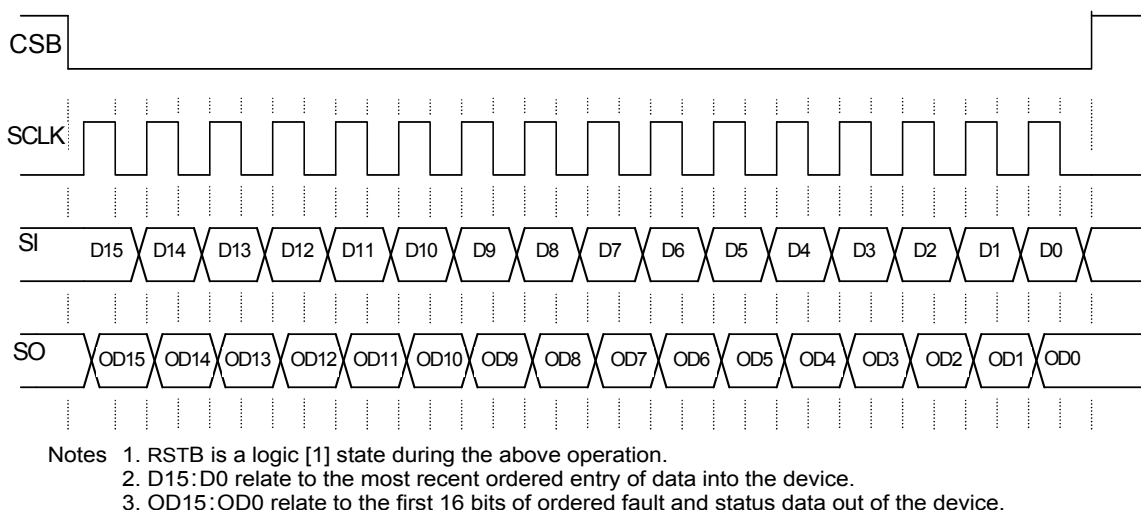

Figure 10. Single 16-Bit Word SPI Communication
The SCLK pin clocks the internal shift registers of the 07XS3200 device. The serial input (SI) pin accepts data into the input shift register on the falling edge of the SCLK signal while the serial output (SO) pin shifts data information out of the SO line driver on the rising edge of the SCLK signal. It is important the SCLK pin be in a logic low state whenever CSB makes any transition. For this reason, it is recommended the SCLK pin be in a logic [0] whenever the device is not accessed (CSB logic [1] state). SCLK has an active internal pull-down. When CSB is logic [1], signals at the SCLK and SI pins are ignored and SO is tri-stated (high-impedance) (see Figure 10, page 24). SCLK input has an active internal pull-down, I_{DOWN} .
5.2.9 Serial Input (SI)